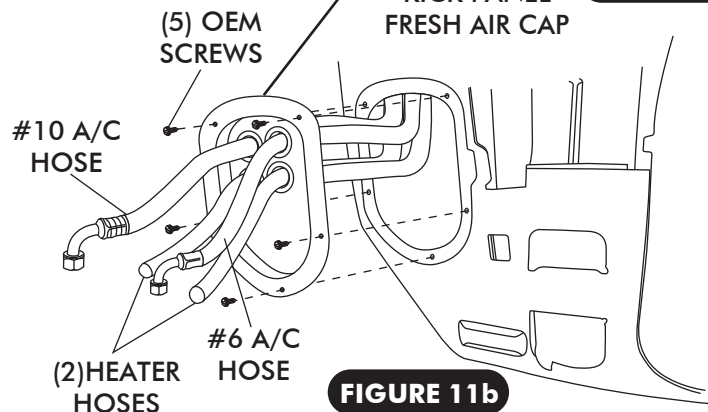

FIGURE 11b
- ☐ SECURE KICK PANEL FRESH AIR CAP USING OEM SCREWS, AS SHOWN IN FIGURE 11b, BELOW.